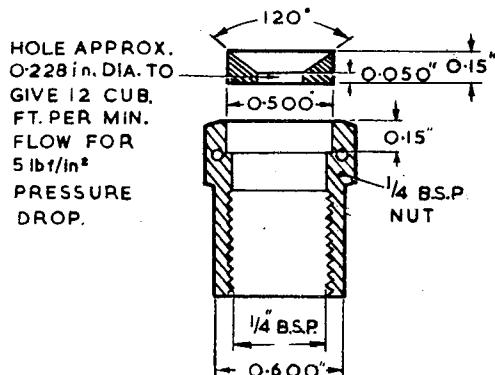

Fig 4 Details of jet B
10. Jet B (fig 4) can be made from brass plate and permits a flow rate of 12 cub. ft. of free air per minute at a pressure of 5 lb.f/in². The jet should be soldered into the nut, which should be screwed on to a 1/4in steel union (AGS949/B) and sealed with a 1/4in light-alloy washer.